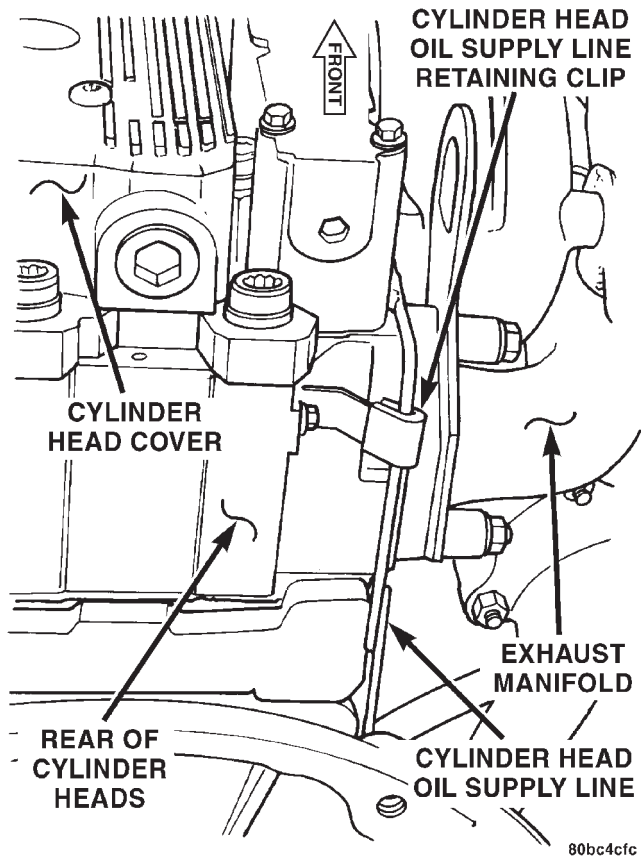

Fig. 59 Cylinder Head Oil Supply Line Retaining Clip
- (17) Raise vehicle on hoist.
- (18) Disconnect the exhaust pipe at the turbocharger.
- (19) Remove the Exhaust manifold and turbocharger. Refer to Group 11, Exhaust System and Turbocharger.
- (20) Disconnect the boost pressure sensor electrical connector.
- (21) Remove the Intake manifold. Refer to intake manifold removal and installation procedure in this section.
- (22) Remove the oil feed line support bracket at rear of the cylinder head (Fig. 59).